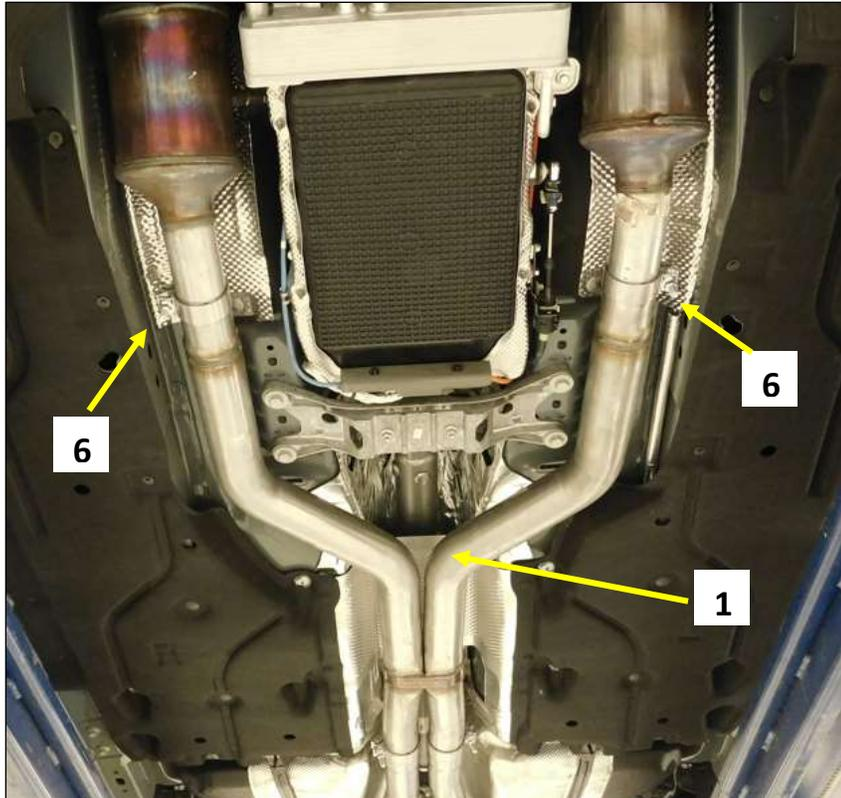

Figure 8
7. Support the scavenger pipe level and parallel with the bottom of the car and tighten the band clamps **(6)** to allow for adjustment but hold the part in place. Continue to support the Scavenger pipe until the system is completely installed (**Fig. 8**).